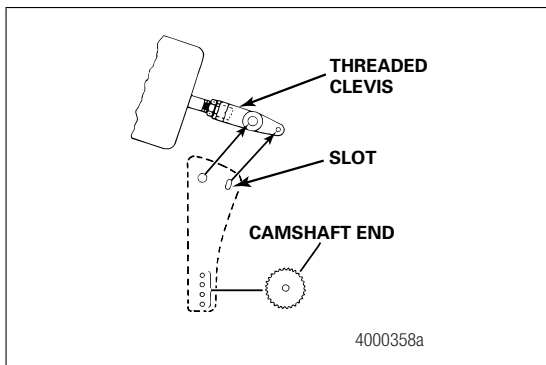

Figure 5.10
- If the small clevis hole doesn't align within the slot: Adjust the clevis until you can see the small clevis pin hole within the slot. Figure 5.10.